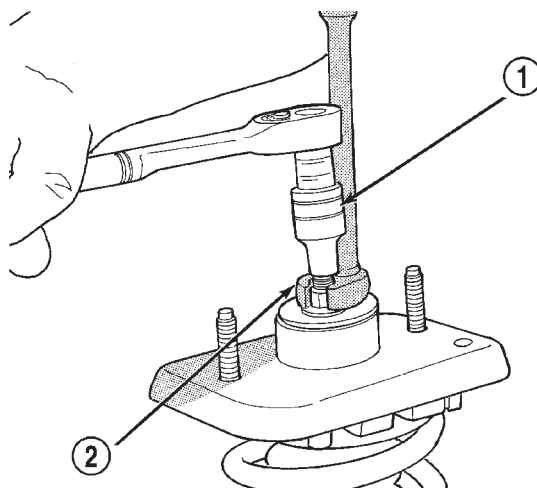

Fig. 45 Retainer Nut Removal/Installation
(3) Compress the coil spring until all coil spring tension is removed from the upper mounting bracket.
(4) Hold the shock rod from rotating using special socket Snap-On A136, or an equivalent, and remove the retainer nut (Fig. 45).
(5) Remove the upper shock rod bushing retainer washer from the shock rod.
(14) Install the upper shock rod bushing retainer washer. Make sure the concave side is facing up.
(15) Install the shock assembly retainer nut. Hold the shock rod from rotating using special socket Snap-On A136, or an equivalent, and tighten the retainer nut using a crow foot wrench (on the end of a torque wrench and extension) to a torque of 55 N·m (40 ft. lbs.) (Fig. 45).